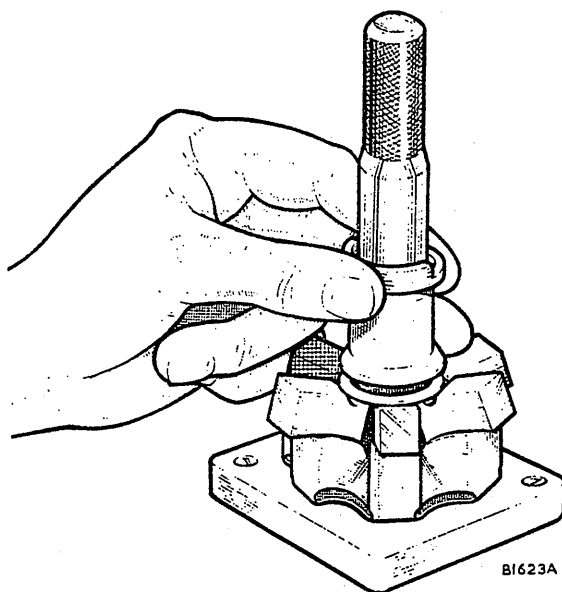

Fig. C.8
- (38) Fit a new drive hub oil seal to the pump housing, using tool 18G 663. Insert inspection plug 18G 660 into the oil seal and examine the oil seal; a continuous black line should be visible through the plug.
- (39) Fit the two washers into the drive hub and insert the hub into the hub oil seal.
- (40) Using tools 18G 661 and 18G 662, assemble the governor weights, thrust washer, and sleeve, to the weight retainer (see Fig. C.8). The stepped flange of the sleeve must go away from the thrust washer.
- (41) Slide the governor weight assembly onto the drive shaft, fit protection cap 18G 657 over the drive shaft splines and a new 'O' ring in the groove on the drive shaft.
- (42) Insert the drive shaft and weight assembly into the pump housing and engage the drive shaft splines with the splines in the drive hub. Fit the drive shaft screw and, using tool 18G 659 to hold the drive hub, tighten the screw with adaptor 18G 664 to the torque figure given in 'GENERAL DATA'. Check the drive hub end-float as described in (5).
- (43) Using circlip pliers 18G 1004, fit the cam ring locating circlip against the shoulder in the pump